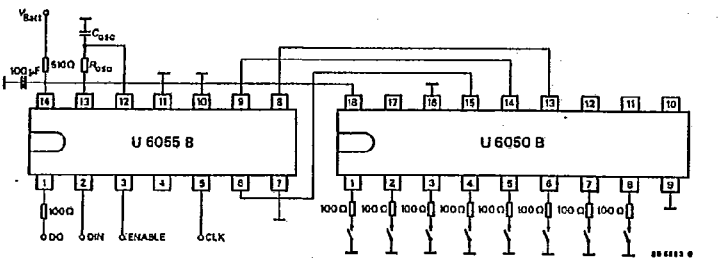

Fig. 10
- Any combinations of U 6050B and U 6055 B are possible. Figs. 10 and 11.